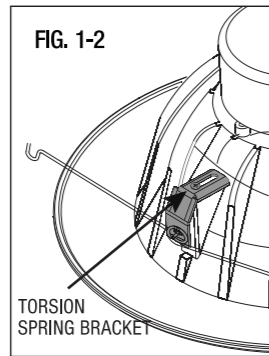

FIG. 1-2
- Loosen Torsion Spring Brackets with a screwdriver. If installing the luminaire into a 6" housing can, move the Torsion Spring Brackets as far outward as they can go, as shown in FIG. 1-1. If installing the luminaire into a 5" housing can, move the Torsion Spring Brackets as far inward as they can go, as shown in FIG. 1-2. Once the Torsion Spring Brackets are in the correct position, tighten them with a screwdriver.